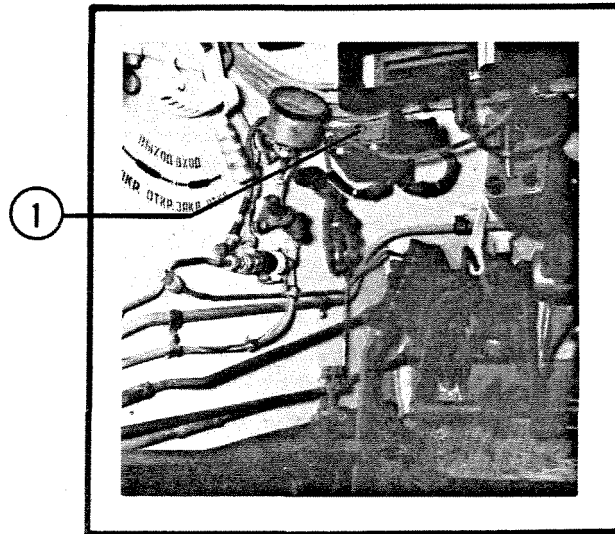

FIG. 2-22. DRIVER COMPARTMENT
l. KRP-1 CBR Relay Box (Fig. 2-22) The KRP-1 CBR relay box under the driver's left vision block performs a variety of functions related to the PAZ CBR system on the T-62. Since the PAZ system is not present on the T-62 tanks available for training, it is strongly recommended that this relay box be disregarded. Otherwise, activation of the system will automatically seal certain parts of the tank.